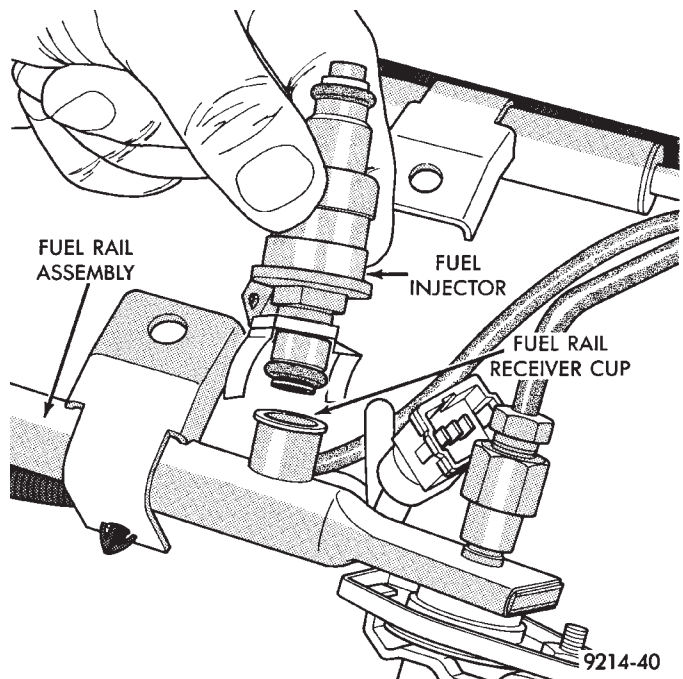

Fig. 18 Fuel Injector and Rail—Typical
- (1) Disconnect injector wiring connector from injector.
- (2) Position fuel rail assembly so that the fuel injectors are easily accessible (Fig. 18).